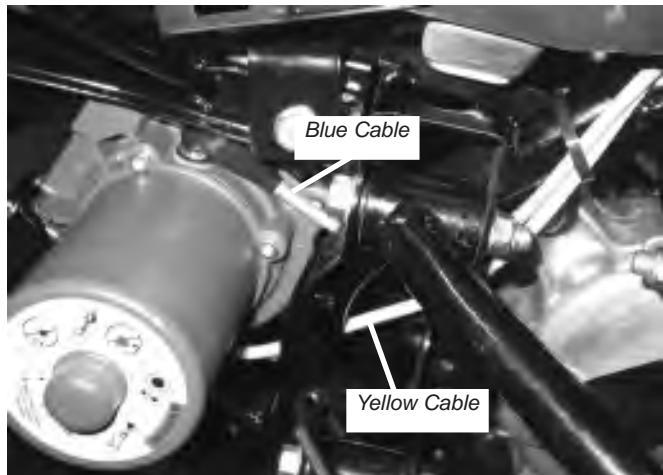
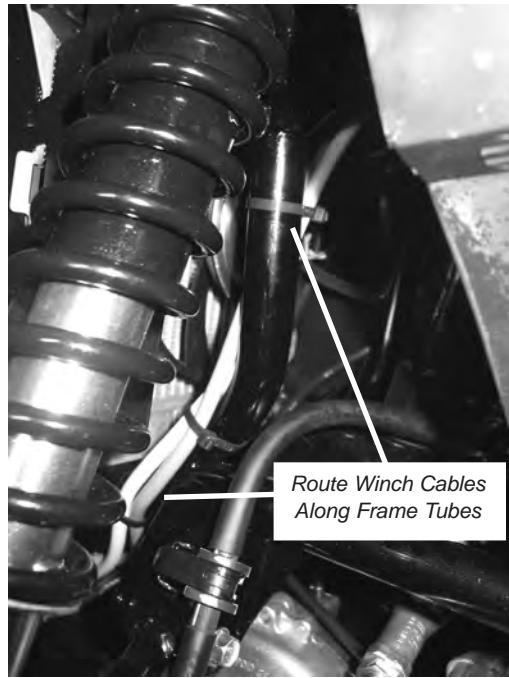

Figure 15 Connect Yellow and Blue Electrical Cables
Figure 32 Winch Cables Routing
16. Place the motor terminal boots on the supplied yellow and blue electrical cables. Connect the yellow and blue cables to the motor terminals on the winch, figure 15. Tighten the motor terminal nuts to the recommended torque of 5.7 N·m (50 lb-in). Slide the motor terminal boots over the motor terminals.
- a. Route the yellow and blue electrical cables from the winch up the left side frame tubes of the ATV, figure 15 and figure 32. Secure the cables with supplied plastic tie straps. Avoid all moving and potentially hot components of the ATV when routing the electrical cables.